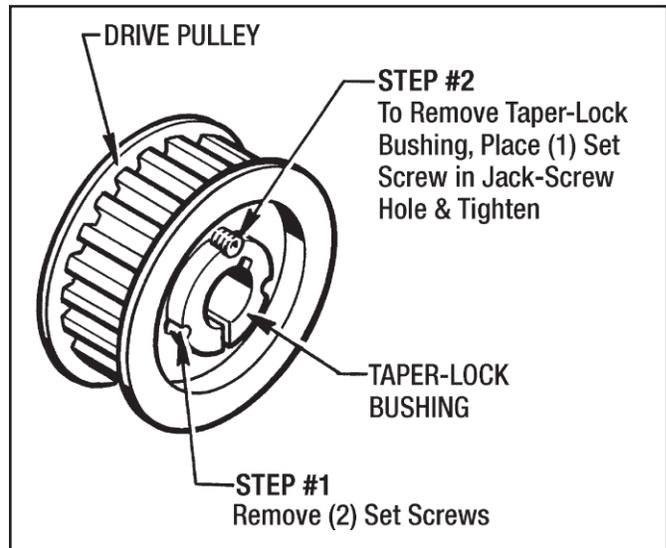

Figure 7.1 - Removing Drive Pulley
4. Take the Taper Bushing (#331) off the *Posidyne* Input Shaft. (See Figure 7.1 for procedure.) This will release the tension on the Timing Belt (#334). Take it off the Pulleys.